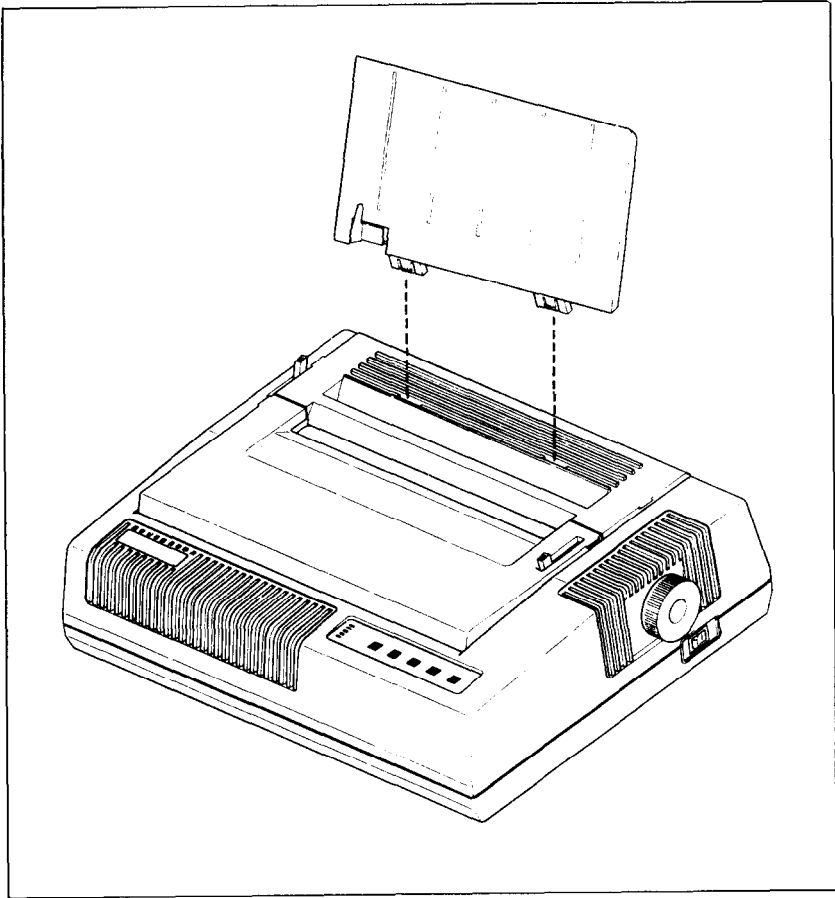

Figure 2-4. Use the single sheet guide for loading cut paper.
1. Attach the single sheet guide to the printer (Figure 2-4).